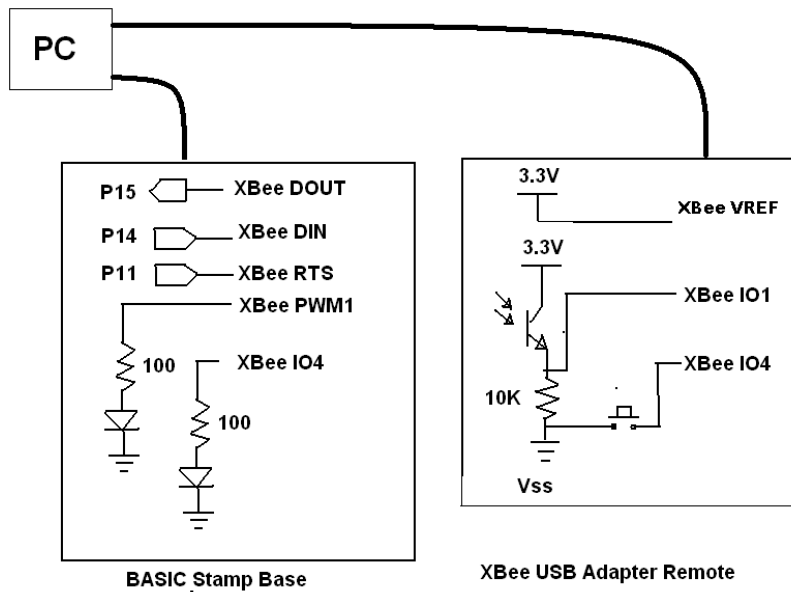

Figure 6-11: BASIC Stamp Testing Hardware Configuration
The code, API_Base.BS2, will be used to send and receive framed data in API mode to highlight some of the nice features of API mode and the XBee module in this mode. The code is very long and memory intensive. Further on we will discuss some tricks to use less memory, but generally these tricks reduce the amount of data received and nearly eliminate the need to use API mode in the first place. The configuration in Figure 6-11 is used to test API_Base.bs2. The base XBee is controlled and monitored via the BASIC Stamp Debug Terminal and the remote XBee on USB for power using X-CTU for a terminal. An array of 18 bytes called `DataSet` is used to hold the incoming and outgoing frame.
- ✓ Configure the hardware as showing in Figure 6-11.